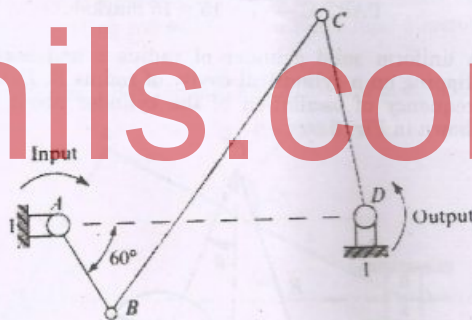

Fig. 8
- (ii) Determine the mechanical advantage of the four-bar linkage in the posture shown in Fig. 8. Assume the lengths of the links;  $AB = 60 \text{ mm}$ ,  $BC = 210 \text{ mm}$ ,  $CD = 120 \text{ mm}$  and  $DA = 180 \text{ mm}$ . (8)